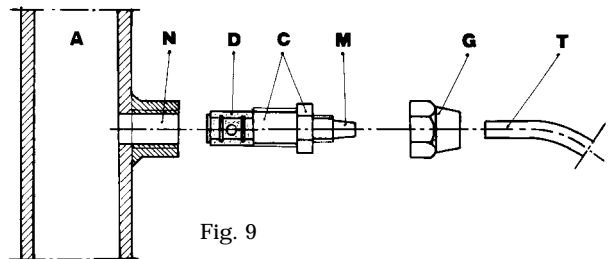

Fig. 9
- g. - Select the most appropriate injection point on a pipe of the plant to be treated and there fit a 3/8" female steel gas thread connector (similar to BSPm). This connector is not supplied with the pump. Screw the injection valve to the gas connector, inserting a gasket as shown in Fig. 9. Then connect the discharge hose to the conical connector on the injection valve and fix it with the supplied tube nut G. The injection valve also acts as no return valve by means of a cylinder sleeve (elastomer, standard supplied in Viton).
3.1 - INJECTION VALVE INSTALLATION DIAGRAM (Fig. 9)